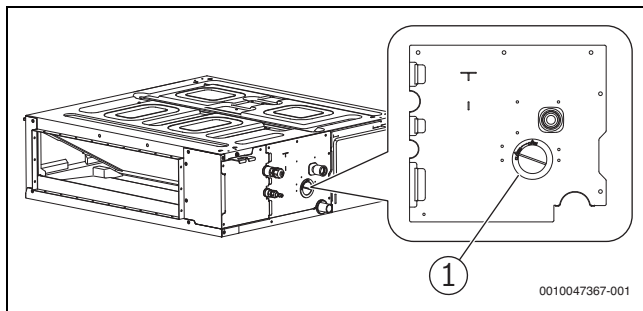

Fig. 98
- ▶ Open the test water cap (→ Fig. 98) on the machine body needs to be unscrewed during the drainage test to check whether the drainage pump is turned on and whether there is a problem with the drainage pump.